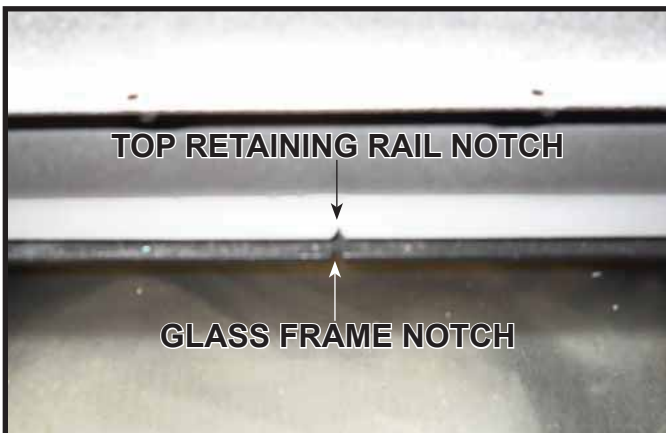

Figure 14.5. Align Notches
3. Center the fixed glass assembly from left to right inside the top of the appliance opening. Align the notch at the top center of the glass frame assembly with the notch on the top retaining rail. The glass frame has tabs on the bottom that coincide with the bottom glass clip location. The LUX36 has three tabs and the LUX42 has four tabs. If the glass is not centered, it can not be installed properly. See Figure 14.5.